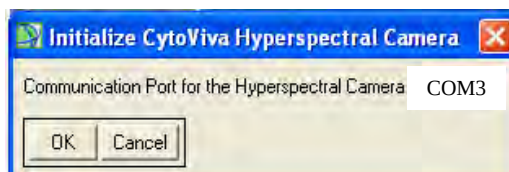

Figure 1. COM Port Window
3. Enter the COM port number (see Figure 1) which has been assigned to the automated stage by your computer (usually 3).